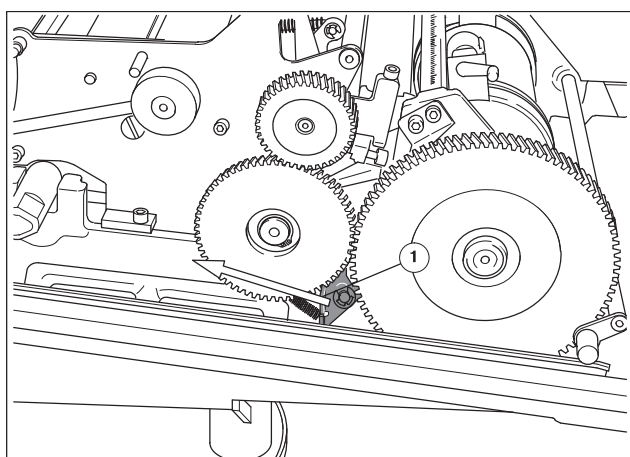

Fig. 30 Releasing the ratchet pawl
4. Press the ratchet pawl at the drive gear (Fig. 30/1) in the direction of the arrow and keep pressed during the washup procedure.